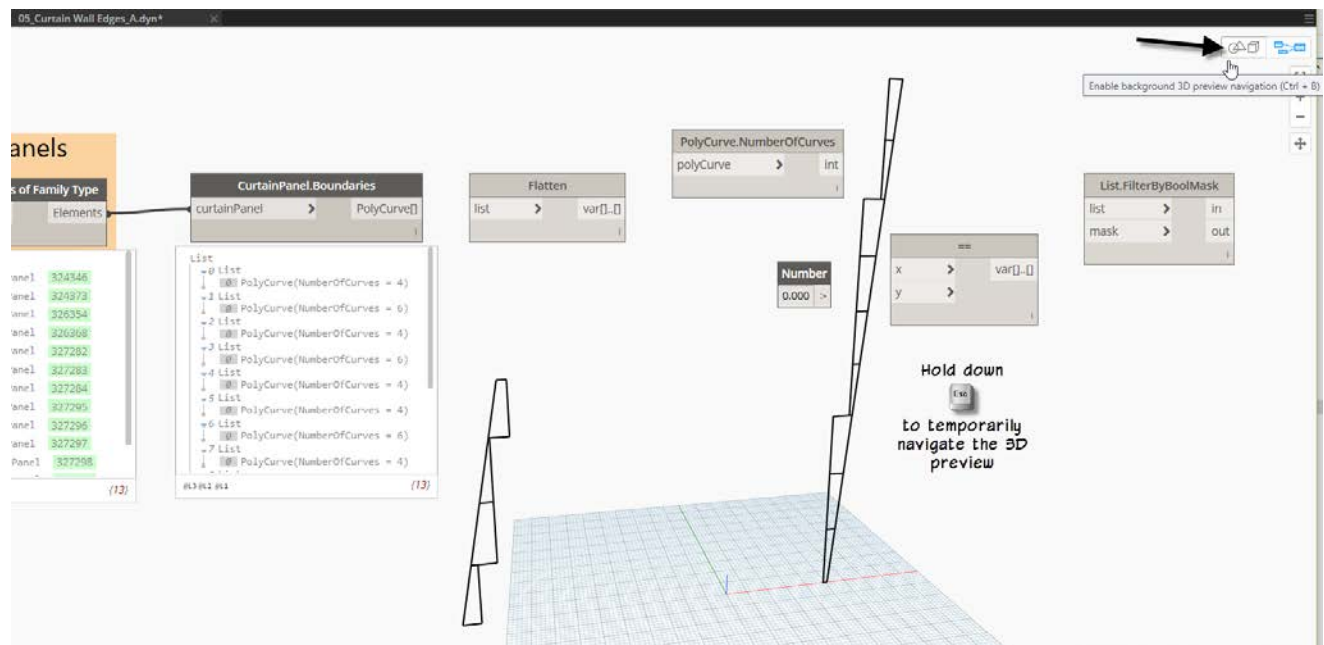

Figure 71
19. Toggle the 3D preview again²² (see Figure 71).